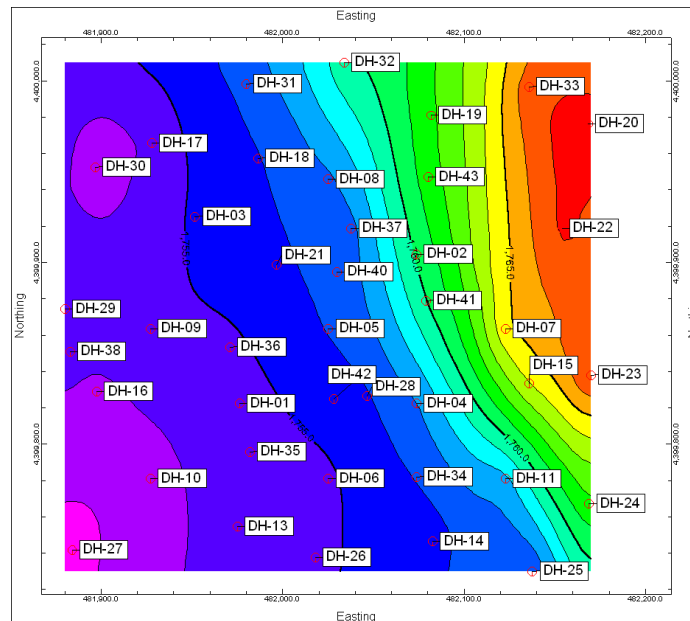

Figure 59
- After clicking the *Continue* button, a map will appear (Figure 59) that shows the well locations and the interpolated surface topography based on the collar elevations.